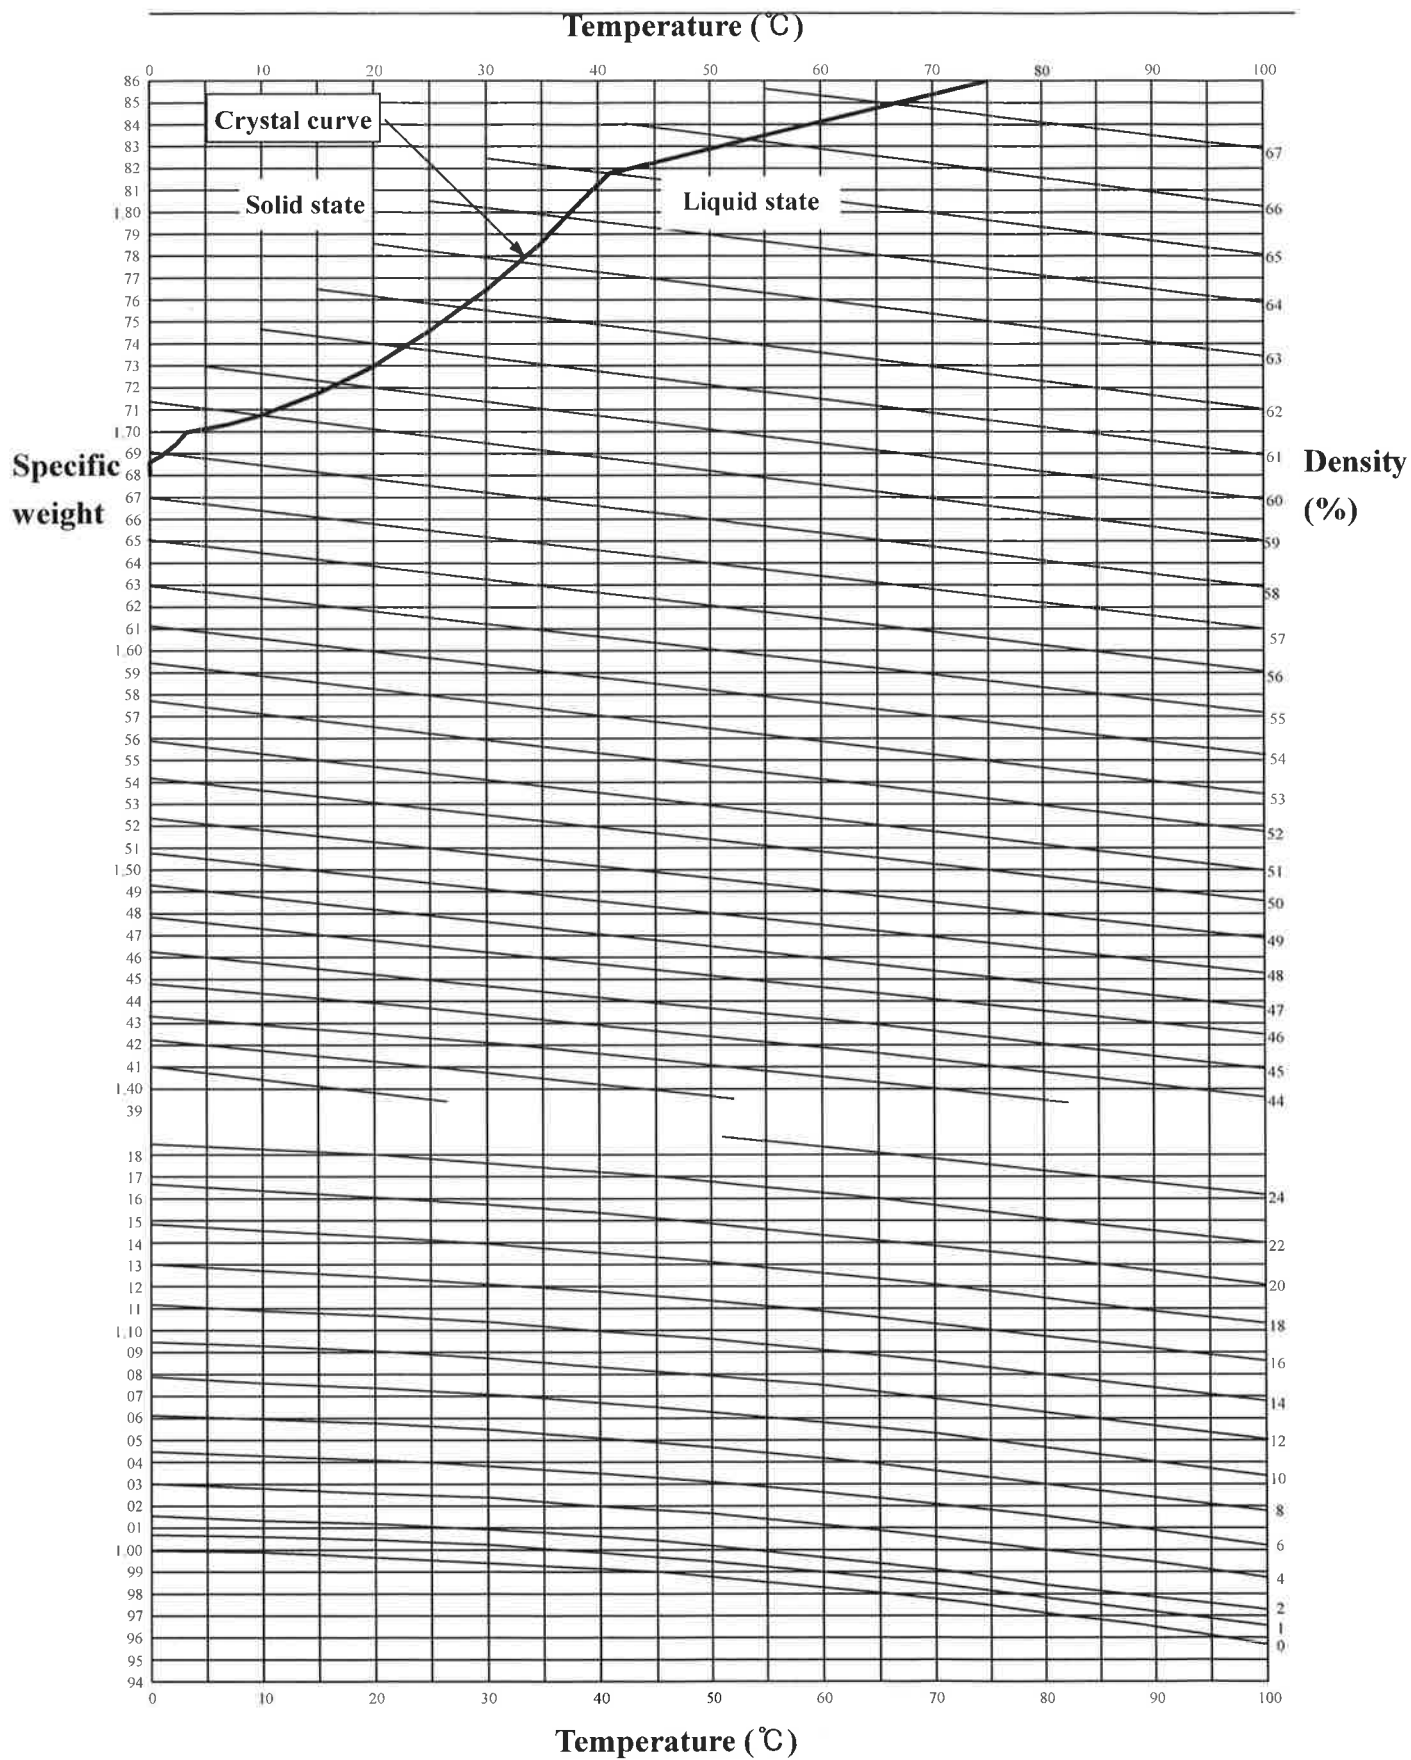

Figure 1-7. Density curve of absorption
Specific weight of a solution of 『Lithium Bromide』 (about 60% density) is much greater than that of water(1.0). (about 1.7 times) specific weight is determined by liquid density and its density can be found from the figure 1-7 duhring diagram, measuring temperature and specific weight of absorption solution.
4. Density curve of a solution of Lithium bromide (refer to the figure1-7)